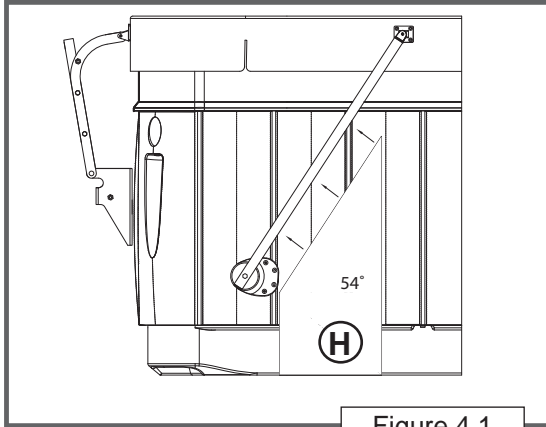

Figure 4.1
1. Locate the Template (H) and place on ground below Side Arm Assembly (Figure 4.1).
2. Slide Template against Side Arm Assembly making sure the entire angle of the Template touches the Side Arm Assembly (Figure 4.1)